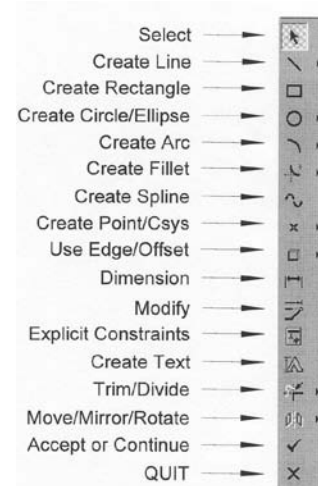

Figure 1.6 The Sketcher toolbar
- Choose Create Rectangle icon on Sketcher Toolbar (Figure 1.6) to sketch a rectangle for extrusion in plane FRONT by clicking on the bottom-right and top-left corners of the rectangle in the drawing windows. Click middle mouse to finish drawing the rectangle.
- Modify the dimensions to 4 x 8 by double clicking on the dimensions on the rectangle. To end sketching choose Accept icon on Sketcher Toolbar (Figure 1.6) and click OK in the Section dialog.